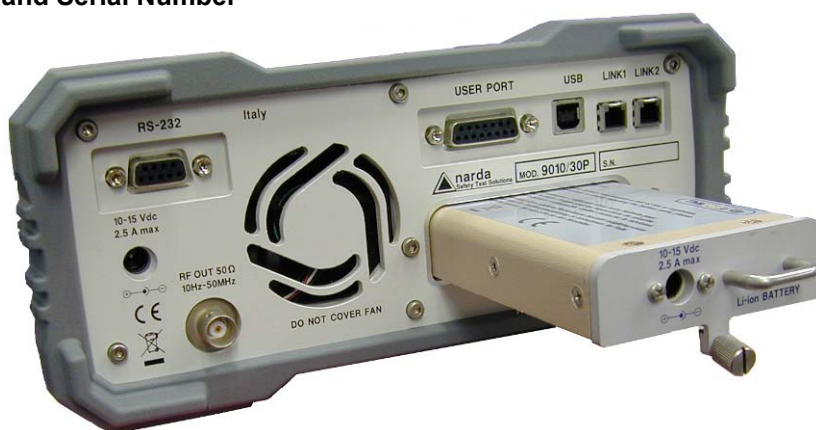

Fig. 9-6 BP-02 Replaceable Battery
- **Replaceable Li-Ion Battery (Fig. 9-6) with main Battery Charger connector**